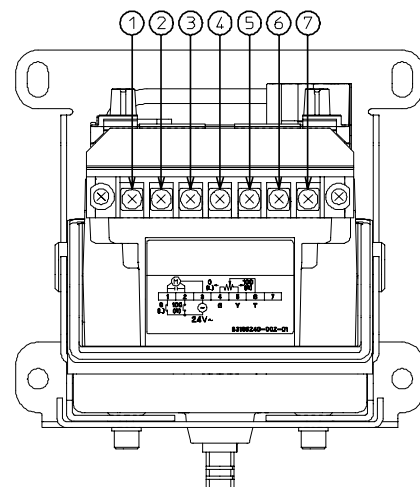

Figure 4. Layout of the terminal block with the cover removed
- 4) Wiring is connected to the terminals (M3.5 screws) of the control motor. Connect the wires by referring to the layout of the terminal block shown in Fig. 4, the wiring terminal diagrams shown in Figs. 10 to 14, and the examples of wiring connections shown in Figs. 15 to 18.